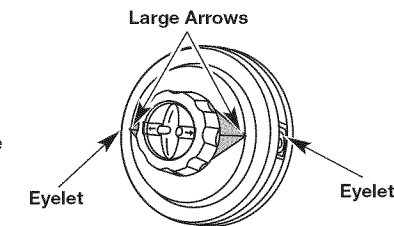

Fig. 19
2. Align the large arrows on the spool with the eyelets (Fig. 19).